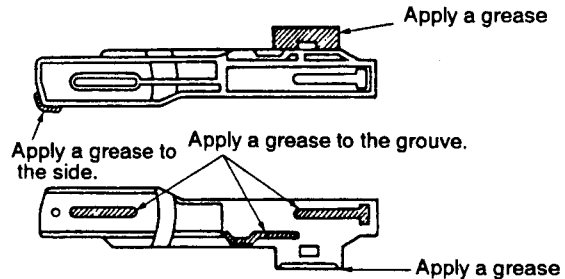

Fig. 12
③ Install the cam gear in the position where projection **E** of the cam gear comes to the front of the follow gear installation shaft.
① Grease the spring slanting cam. (Fig. 12)